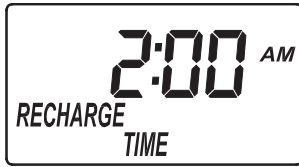

FIG. 21
1. If you completed the previous step, the words “RECHARGE TIME” should show in the display (See Figure 21). Otherwise, press the SELECT button several times until they do.